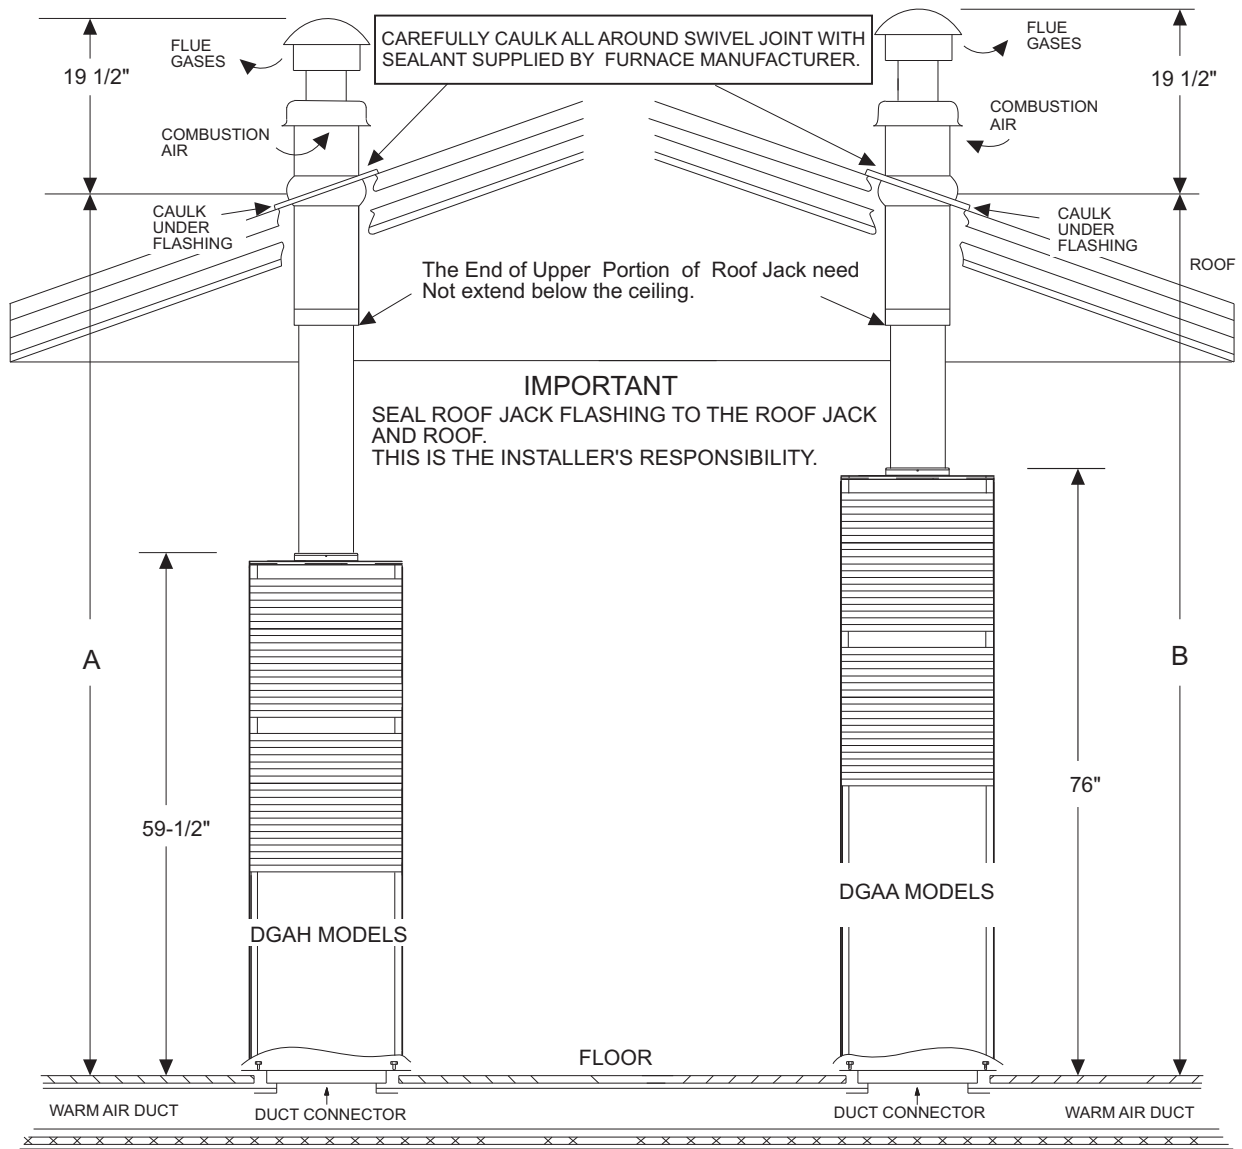

FIGURE 21: Standard Roof Jack
*Only use the appropriate roof jack. See Figures 21 and 22 for correct application.*
*Do not exceed the maximum height as determined from Figures 21 and 22. Installer should allow an additional 1-1/2" travel before the flue pipe assembly is fully extended against the built-in stop. This provides an additional safeguard against the flue assembly being pulled from the roof jack during transportation or other stress conditions.*
To facilitate the proper installation of the roof jack, it is very important that the roof jack opening in the ceiling and roof be on the same vertical center line as the furnace flue collar. See Figure 21 or 22.
(See Figures 21 and 22 for Dimensional requirements.)